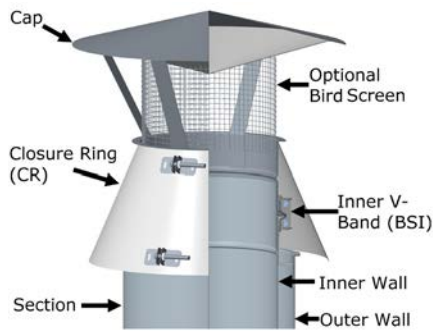

Figure 68 - Rain Cap (RC) installed
The Rain Cap combine partial protection against rain entry with low exit flow (resistance is roughly 0.5 velocity heads). It is mounted to the end of a standard pipe section by use of the standard Inner V-Band (BSI). See Step 1 to 4 in the JOINT ASSEMBLY Section. It is a single wall assembly (for all Models SCL, CAX1, CIX1, CIX2 and CIX4), but a Closure Ring (CR) is provided as part of the Rain Cap so that the insulating space is protected through the upper end of the chimney. The CR must be sealed to the inner wall with outer Sealant S-375. See Figure 68.